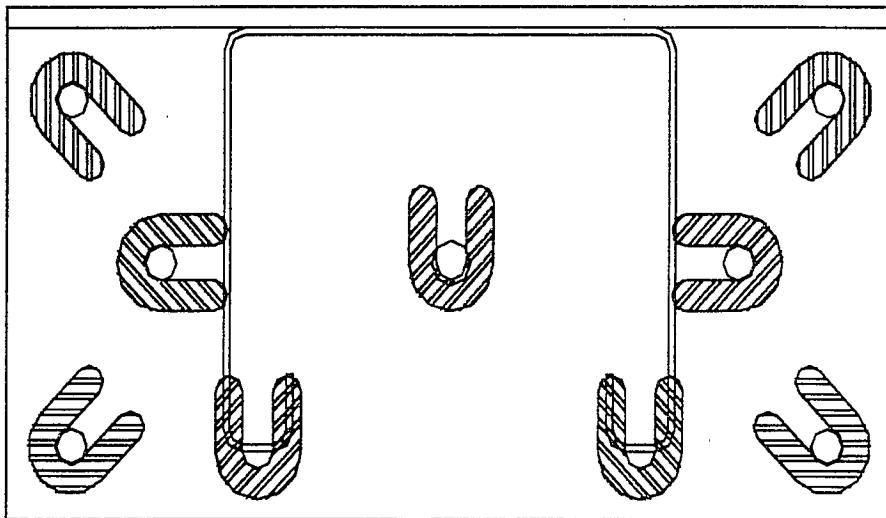

Fig 3
4. Shim both columns to plumb using the shims provided, **See Figure 3.** Do not shim more than 1/2" at any point. Use a level no less than 24" in length to plumb the columns.